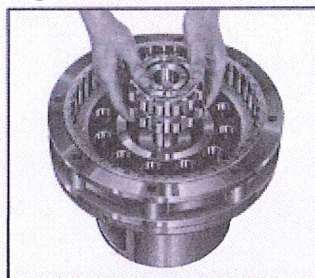

Fig. A-14
7. Using both hands, lift out the top cycloid disc (2-04) on the slow speed side (Fig. A-14).